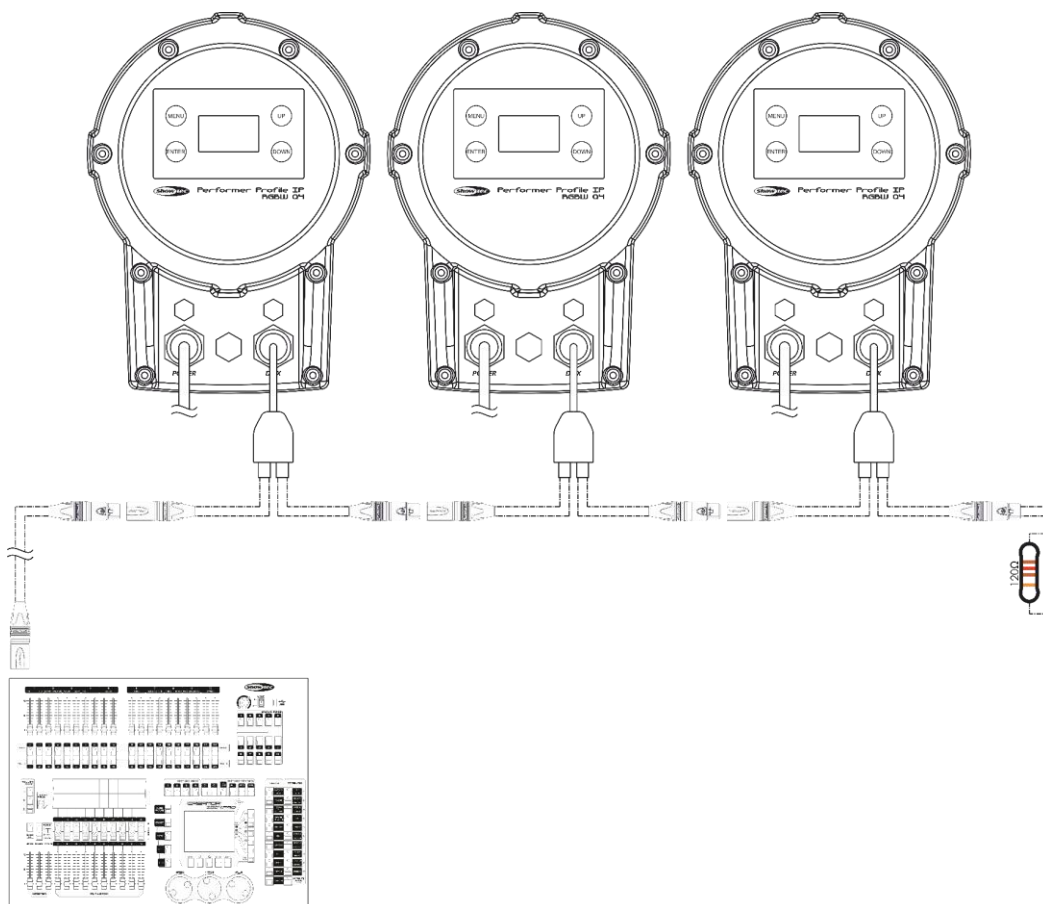

Fig. 11
- 04) Link the units as shown in Fig. 11. Connect a light controller to the first unit's DMX "in" socket, using a DMX cable. Connect the first unit's "out" socket with the second unit's "in" socket, using a DMX cable. Repeat this process to link the rest of the units.